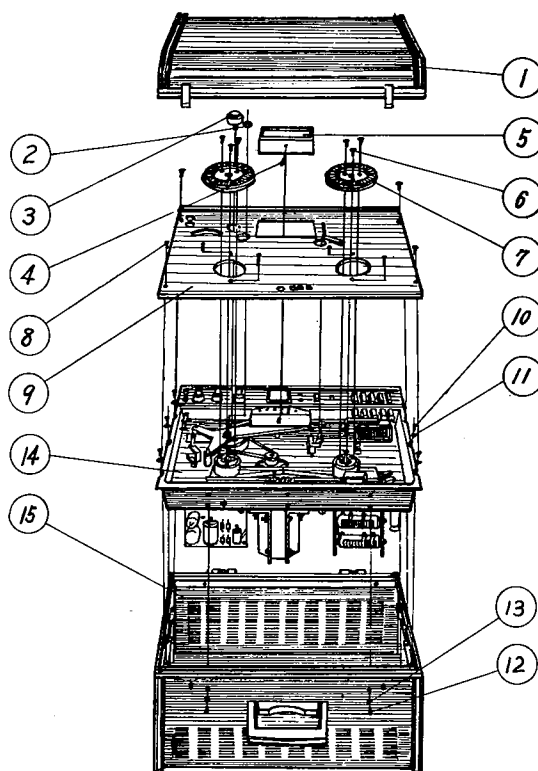

FIG. 3 REMOVING UNIT FROM CASE
5. Remove the following parts and hardware (see Fig. 3).
- Pinch roller (3)
- Dust Cap (2)
- Reel Tables (7) (left and right) by removing three (each) screws (6)
- Head housing (5) by removing screw (4)
- Four mounting screws (8)
- Face plate (9)
- Five mounting screws (10) and washers (11)
- Two mounting screws (12) and washer (13)
6. Place recorder in horizontal position then remove the deck from case (15)